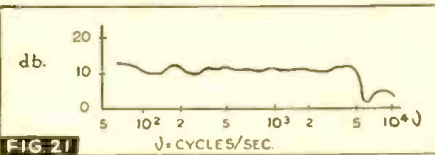

FIG. 21
It may be seen from Fig. 21 that the relative sensitivity of the ribbon microphone changes only slightly for the frequencies from 100 to 5,000 c./sec., while at 5,000 c./sec. it begins to decrease. This may be explained as follows.
The sensitivity of the microphone is given by the approximation formula (14). If, however, the product  $kl = 2\pi l/c$  becomes of the order of magnitude of  $2\pi$ , (14) no longer holds; succeeding terms of the series in the precise formula (13) must also be taken into account. From further considerations (4) it is found that the sensitivity of the microphone will be practically independent of the frequency up to that frequency for which  $kl = \pi$ , i.e., where the product of  $k$  and the width  $a = l/\pi$  of the pole piece is about unity. Now  $k = 2\pi/c = 2\pi/34,000$ , so that with a width of the pole pieces of about 1 cm. we may expect that the sensitivity will change little up to a frequency of 5,000 c./sec. For higher frequencies the sensitivity then decreases quite rapidly as may be seen in Fig. 21. If it were desired that the sensitivity should decrease only at a higher frequency, this may be accomplished by making the pole pieces smaller, but under otherwise similar conditions this takes place, according to equation (14) at the cost of the magnitude of the sensitivity.